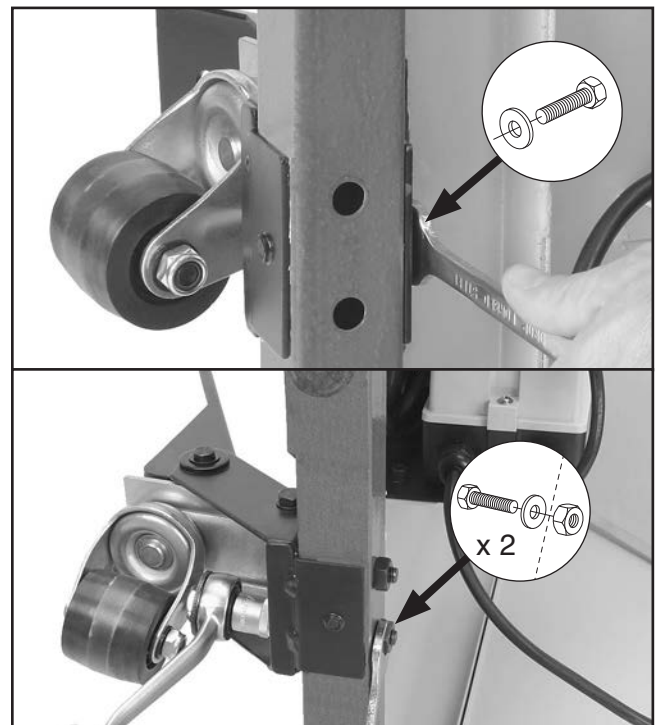

Figure 10. Installing the pedal assembly.
10. Attach pedal assembly to right side of stand with (1) M8-1.25 x 50 hex bolt, (2) M8-1.25 x 55 hex bolts, (3) 8mm flat washers, and (2) M8-1.25 hex nuts, as shown in **Figure 10**.